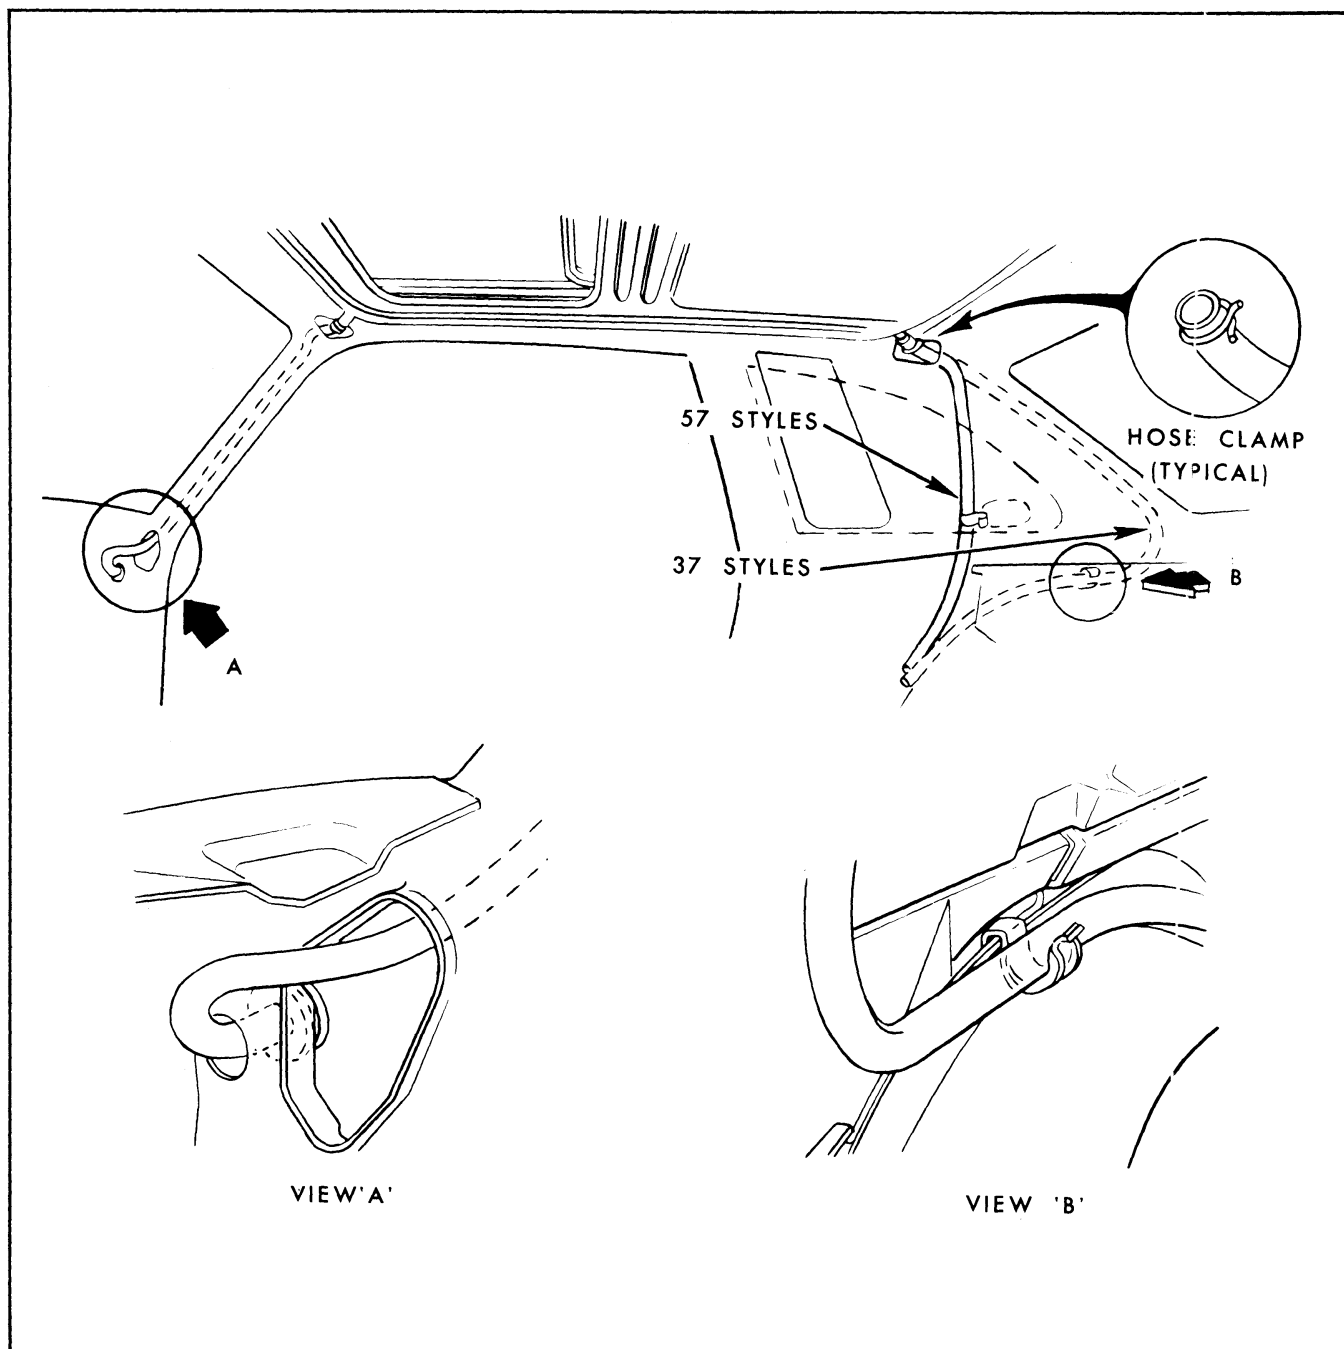

Fig. 8-48-Sunroof Drain Hose Routing
1. Remove windshield and roof side trim moldings in the affected area and detach headlining sufficiently to gain access to top of either drain hose (Fig. 8-48).
3. Detach hose from clip at quarter inner panel ("57" styles) or wheelhouse pinchweld flange ("37" styles) (Fig. 8-48). Without disturbing upper end of hose, pull lower (free end) of hose rearward over wheelhouse on "37" styles or through access hole in quarter inner panel on "57" styles.
1. Remove quarter and back window trim moldings, quarter upper trim panel and detach headlining sufficiently to gain access to top of either drain hose (Fig. 8-48).
6. Route hose as specified and insert in clip at original location (Fig. 8-48).
4. Disconnect four drain hoses at the sunroof housing drain tubes (Fig. 8-48).